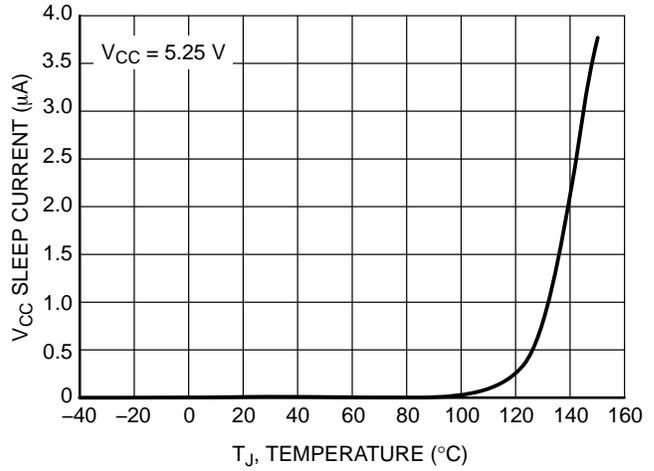

Figure 5. V_{CC} Sleep Supply Current vs. Temperature
6. For temperatures above 85°C , refer to Figure 5.
6. For temperatures above 85°C, refer to Figure 5.